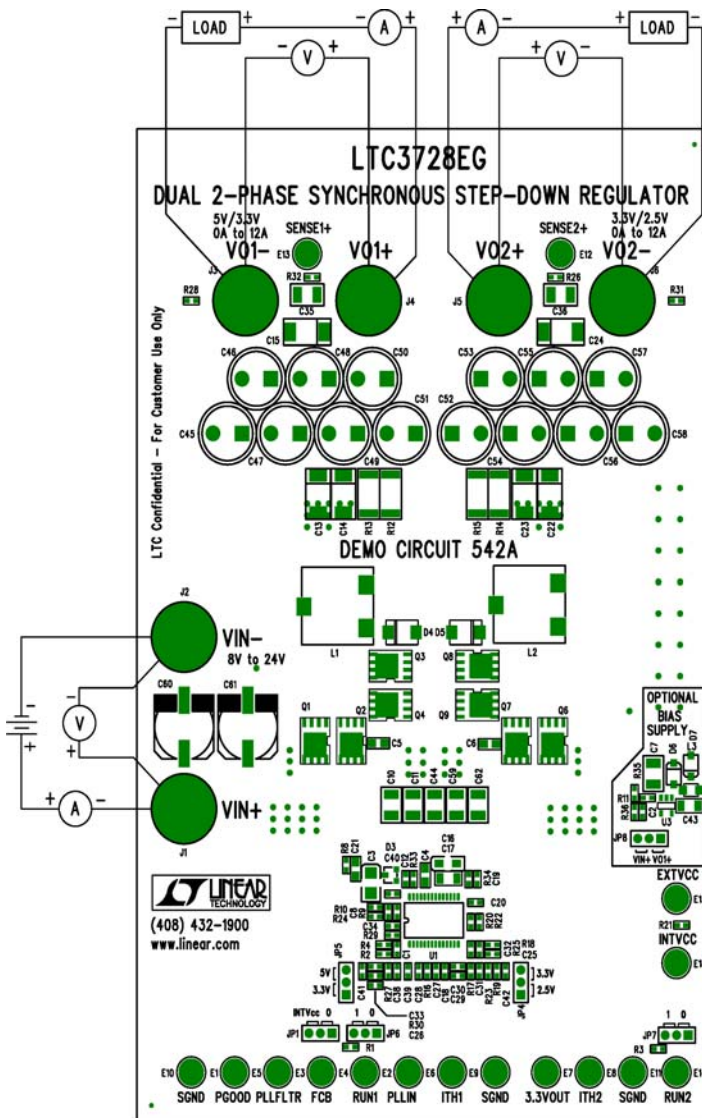

Figure 1. Setup for measurement equipment.
Demonstration circuit 542 is easy to set up. Refer to Figure 1 for the proper setup of the measurement equipment and follow the procedure below:
2. The jumpers should be placed in their default positions as shown in Figure 1.